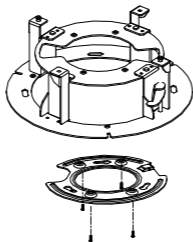

Figure 2-51 Fix the Base Plate to In-ceiling Bracket
- Fix the base plate onto the in-ceiling bracket with the four screws in the package (supplied). Make sure that the cable holes of the base plate are aligned to the cable holes of the bracket, as shown in Figure 2-51.